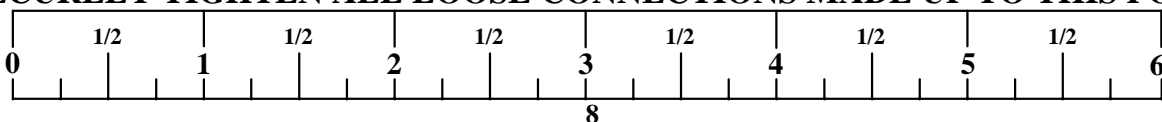

**FIGURE 9**
- **LOOSELY** assemble the LEFT (7) & RIGHT (8) BOOM SUPPORTS to the UPRIGHTS (5) and TOP BOOM (2) using four 1/2 X 3" BOLTS (27), two 1/2 X 3-1/4" BOLTS (26), two 1/2" LOCK WASHERS (32), two 1/2" WASHERS (30), and four 1/2" LOCKNUTS (34) as shown in FIGURE 9.